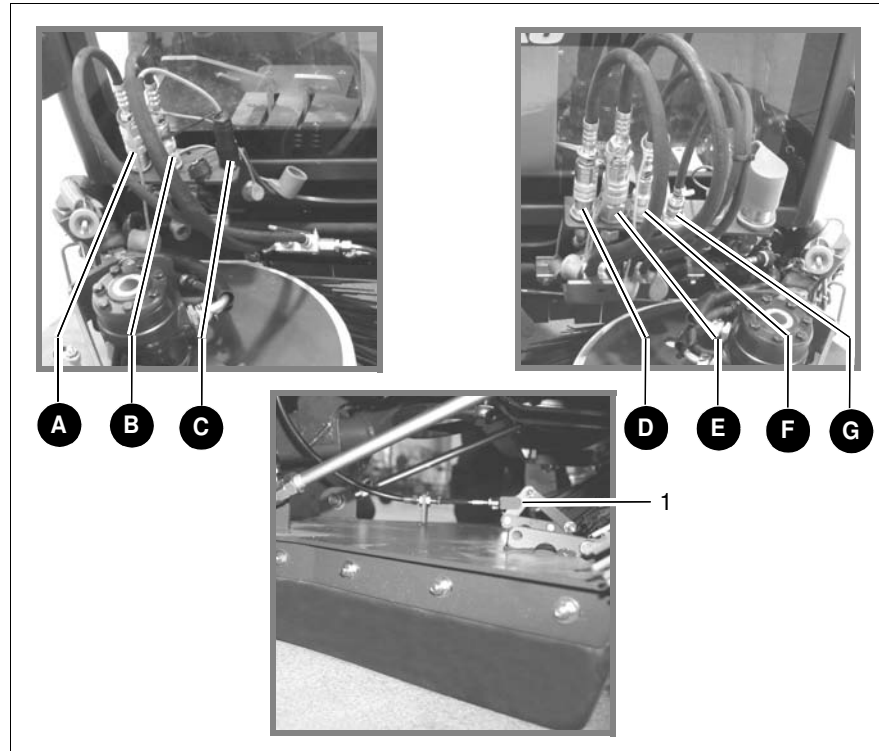

Fig.30
4. Attach Bowden cable (Fig. 30/1) to the larger material flap (pay attention to the path!).